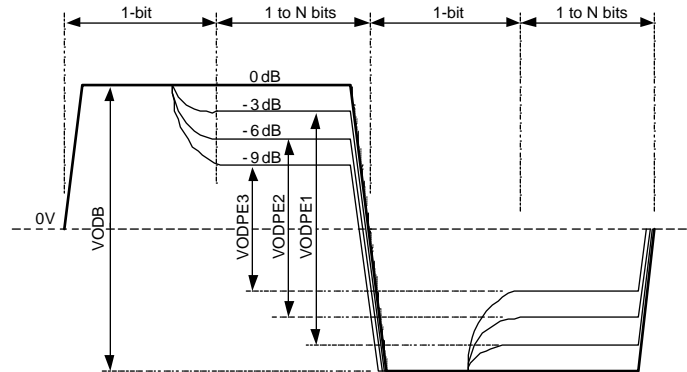

Figure 9. Driver Pre-Emphasis Differential Waveform (Showing All 4 Pre-Emphasis Steps)
The output driver has pre-emphasis (driver-side equalization) to compensate the transmission loss of the backplane that it is driving. The driver conditions the output signal such that the lower frequency and higher frequency pulses reach approximately the same amplitude at the end of the backplane and minimize the deterministic jitter caused by the amplitude disparity. The DS25MB100 provides four steps of user-selectable pre-emphasis ranging from 0, –3, –6 and –9 dB to handle different lengths of backplane. Figure 9 shows a driver pre-emphasis waveform. The pre-emphasis duration is 188 ps nominal, corresponding to 0.47 unit intervals (UI) at 2.5 Gbps. The pre-emphasis levels of switch-side and line-side can be individually programmed.